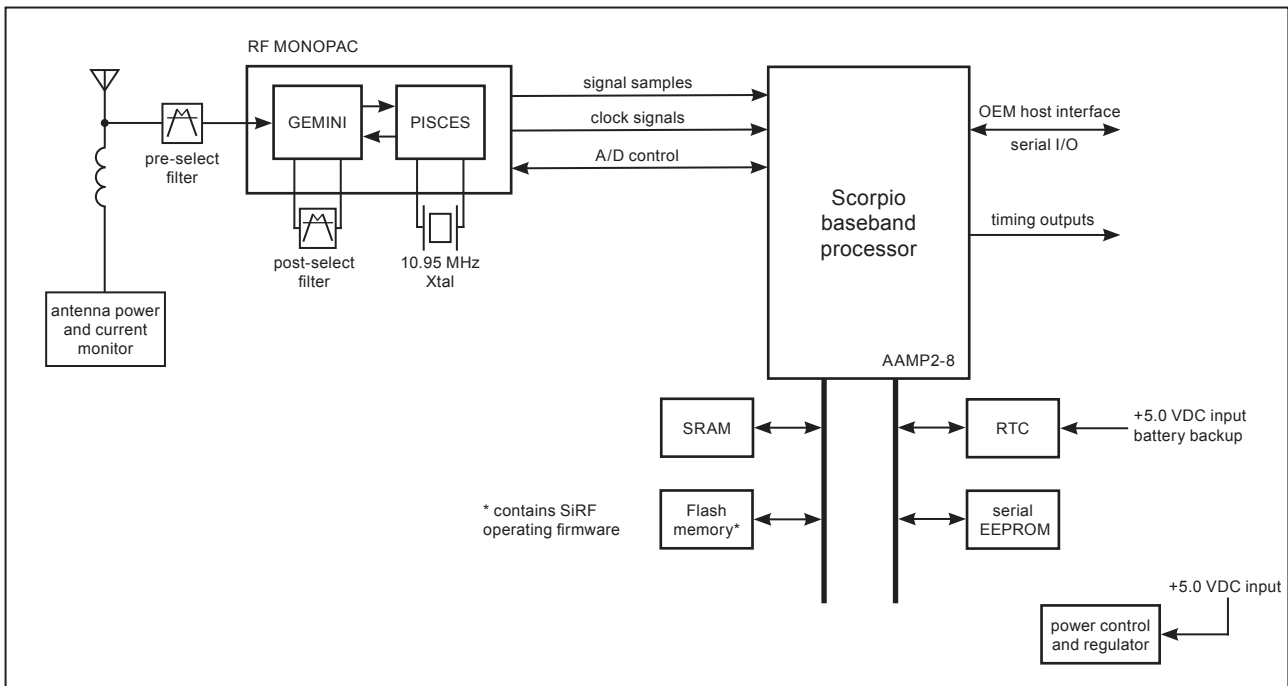

Figure 1-4 Jupiter T receiver architecture
The functional architecture of the Jupiter-T receiver is shown in Figure 1-4. The receiver design is based on the SiRF Zodiac chipset, the Gemini/Pisces MonoPac and the Scorpio baseband processor, which contains the required GPS functionality. The Gemini/Pisces MonoPac contains all the RF down conversion and amplification circuitry, and presents the In-Phase (I) and Quadrature-Phase (Q) Intermediate Frequency (IF) sampled data to the Scorpio device. The Scorpio contains an integral microprocessor and all the required GPS-specific signal processing hardware. Memory and other external supporting components configure the receiver into a complete timing system.